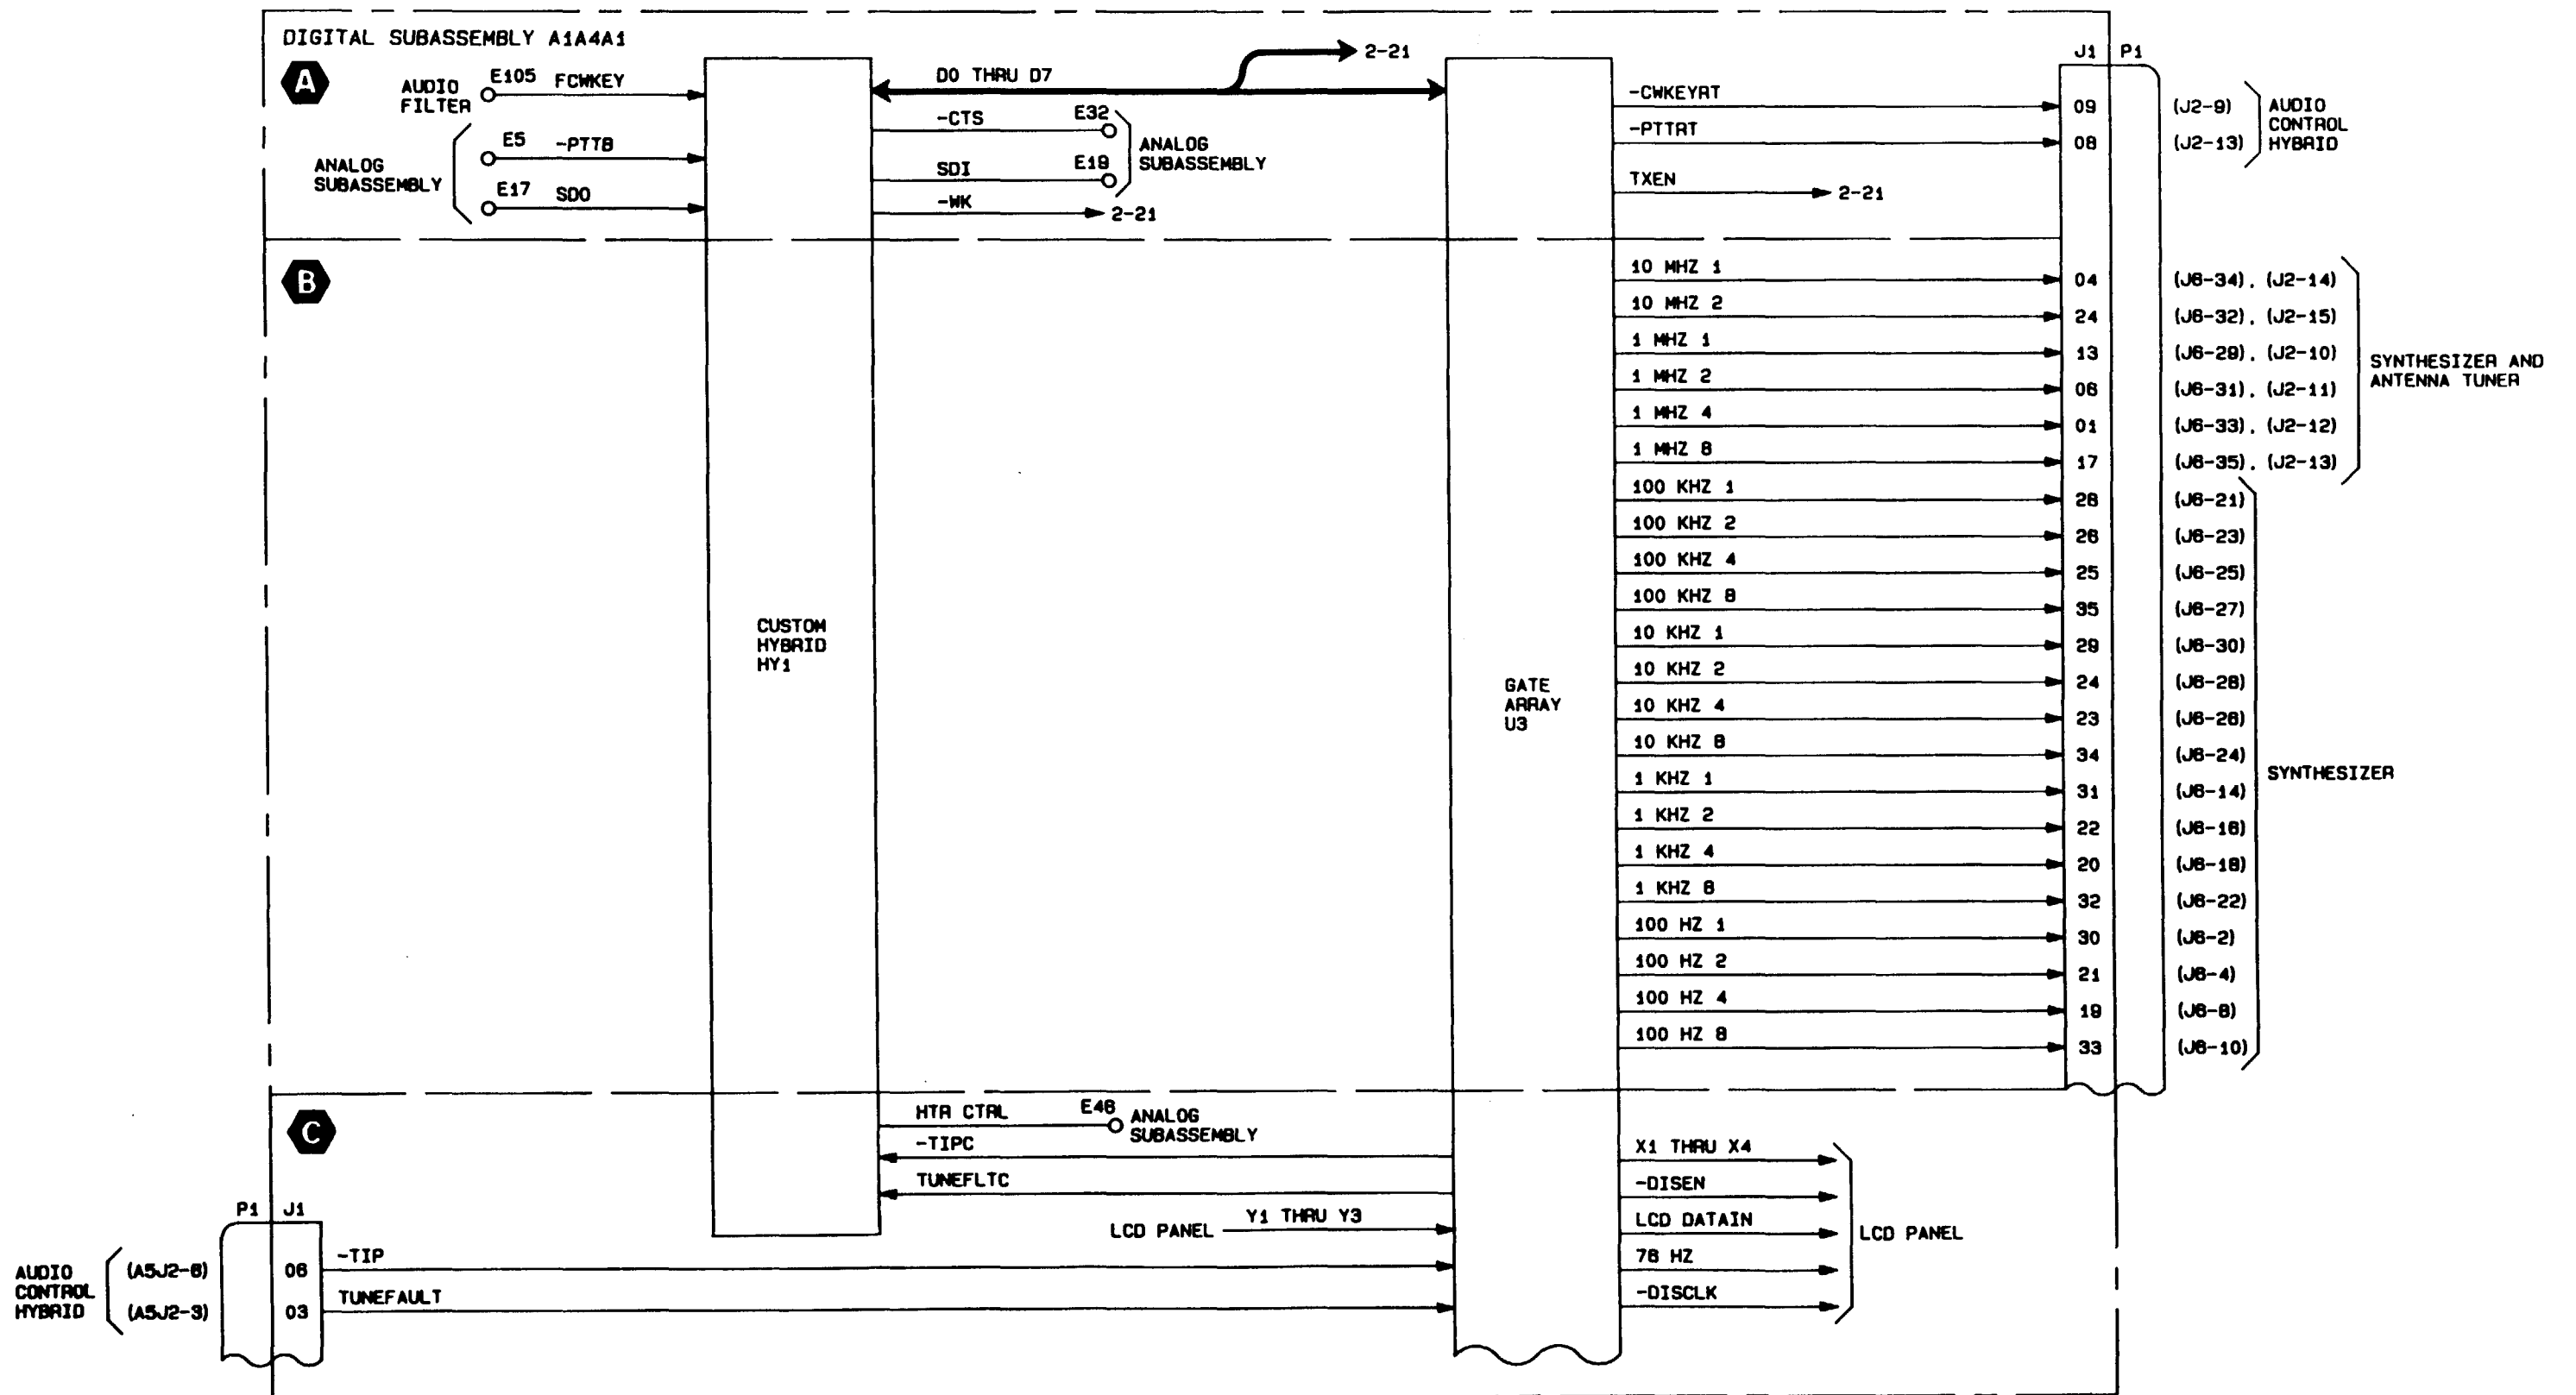

Figure 2-7. Control Interface Assembly (Sheet 1)
**CONTROL INTERFACE ASSEMBLY (3 of 7), fig 2-7, sh 2**
- A** FREQUENCY CHANGE — The frequency change (AF) signal is generated each time a new operating frequency is selected. The AF signal is momentary (grid) during each change when setting the frequency select switches. The AF signal indicates to the audio control hybrid that a new frequency has been selected.